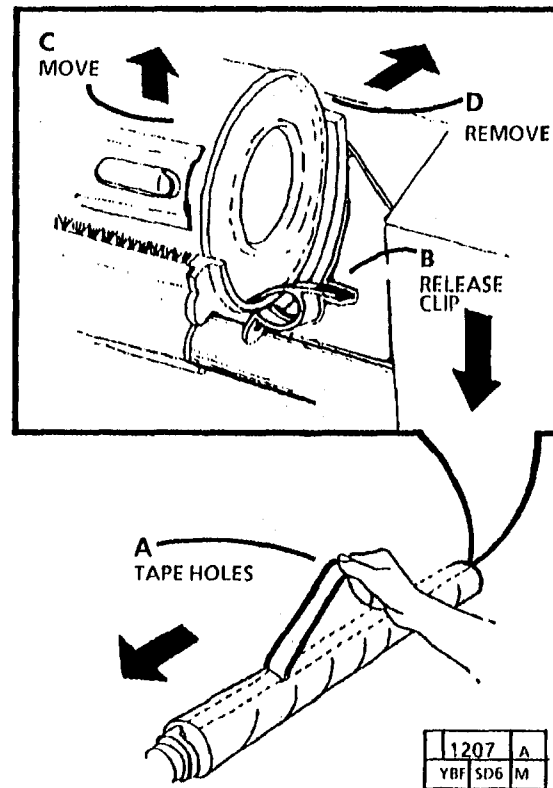

Figure 8. Removing the Dry Ink Plus Cartridge
7. (Figure 8): Cover the openings of the dry ink plus cartridge with adhesive tape, and remove the dry ink plus cartridge.